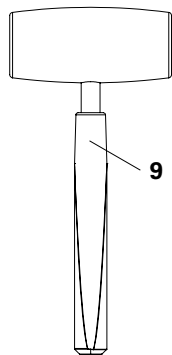

Fig. A3.01a
Where necessary, only use a rubber hammer (9). (Fig. A3.01a)